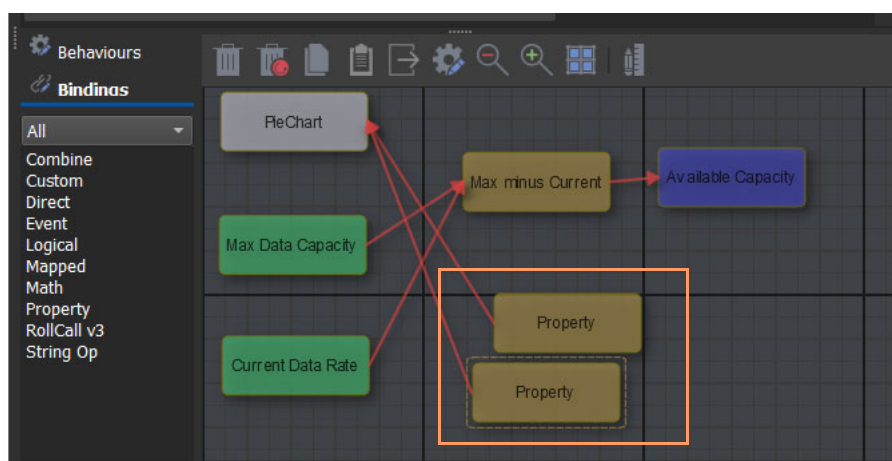

Fig. 3-15: Two New Property Bindings
- 2 Click the 'Property' item in the Bindings list *twice* to add two **Property** Bindings to the graphical editor. See Figure 3-15.